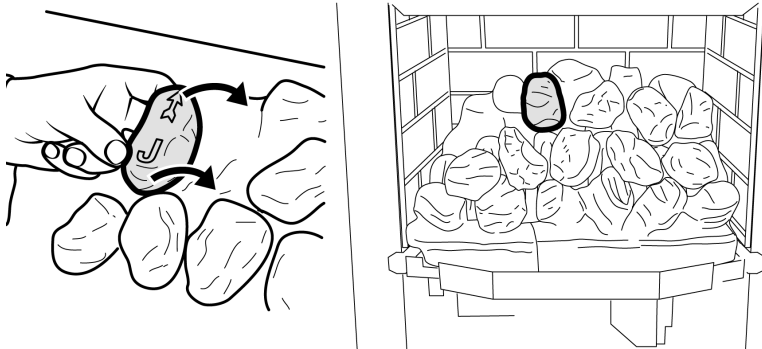

Figure 46. Third row "Coal J"
**19.** Hold coal 'J' upright with the arrow pointing to the top. Locate coal 'J' as shown in figure 46